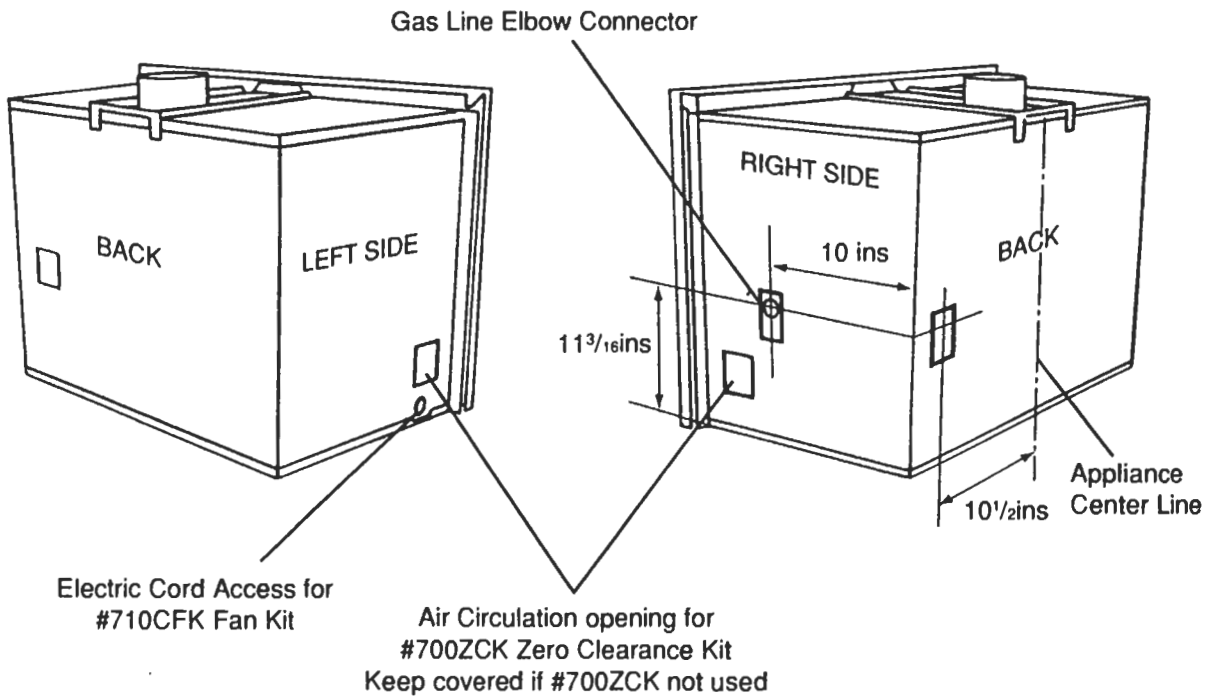

Fig. 4 OPENINGS IN CASE
The supply gas feed line should enter the appliance through one of the openings in the appliance case. Openings are provided at the back and right side. (see fig. 4). See section 4 for gas supply connection details.
4.1. Openings for the gas supply line are provided at the back and right side (see figure 4). The appliance is supplied with a plate covering the back opening. The opening at the right side is uncovered as supplied. If the supply line is to enter through the back, remove the plate and refit to the side opening. **Note that the openings at the right and left sides which are supplied covered with metal plates are not for supply pipe entry. These openings should only be uncovered when the #700ZCK zero clearance kit is used.**